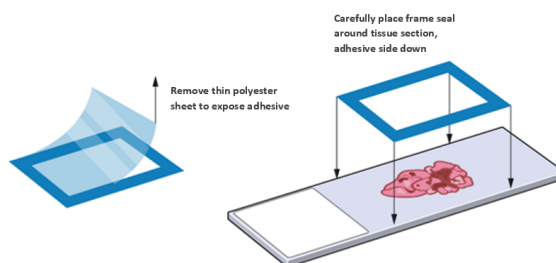

Figure 98: Apply Incubation Frame
5. Apply the incubation frame ( Figure 98 ).